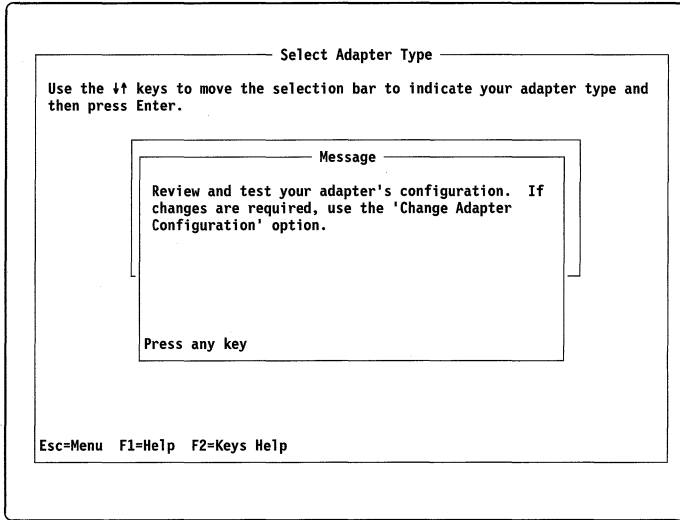

Figure 5. Adapter Type Saved Completion Message
- When the message shown in Figure 5 appears, press any key to continue. The 5250 Adapter Configuration Menu appears again.